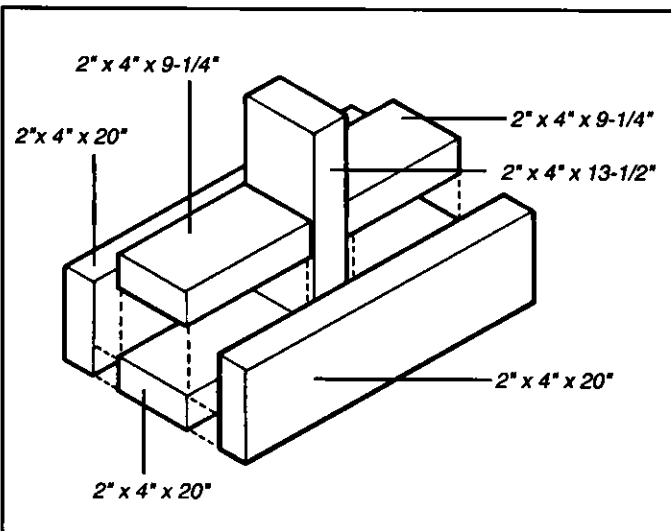

FIG. 10 Support for the Playdeck
2. Refer to Figs.10 or 11 and determine which support is required for your application.
3. Construct the required support as indicated in Figs. 10 or 11 using 10D galvanized nails to join the boards.